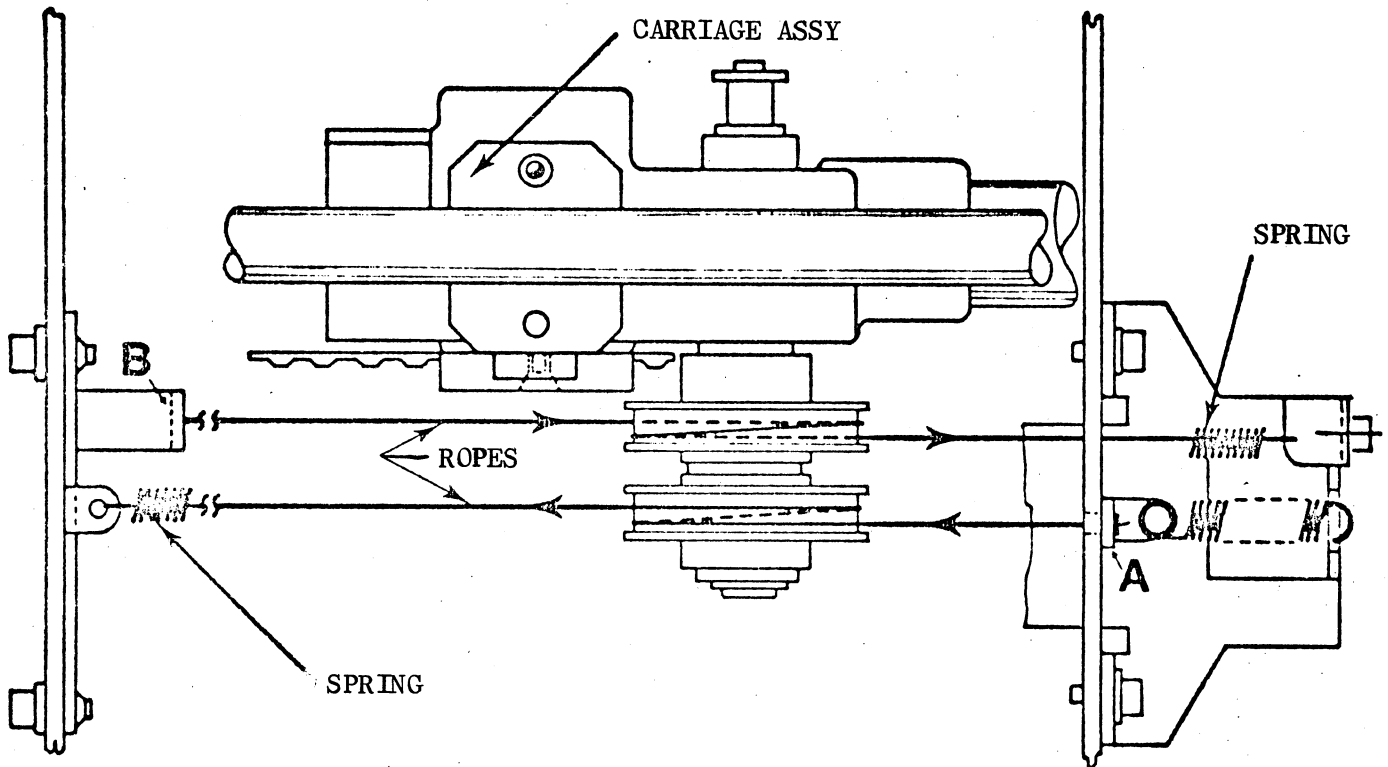

Fig. 7-22 Ribbon Drive Ropes Localization
- . Extract the rope by pulling it from either point (A) or point (B) as shown in fig. 7-22